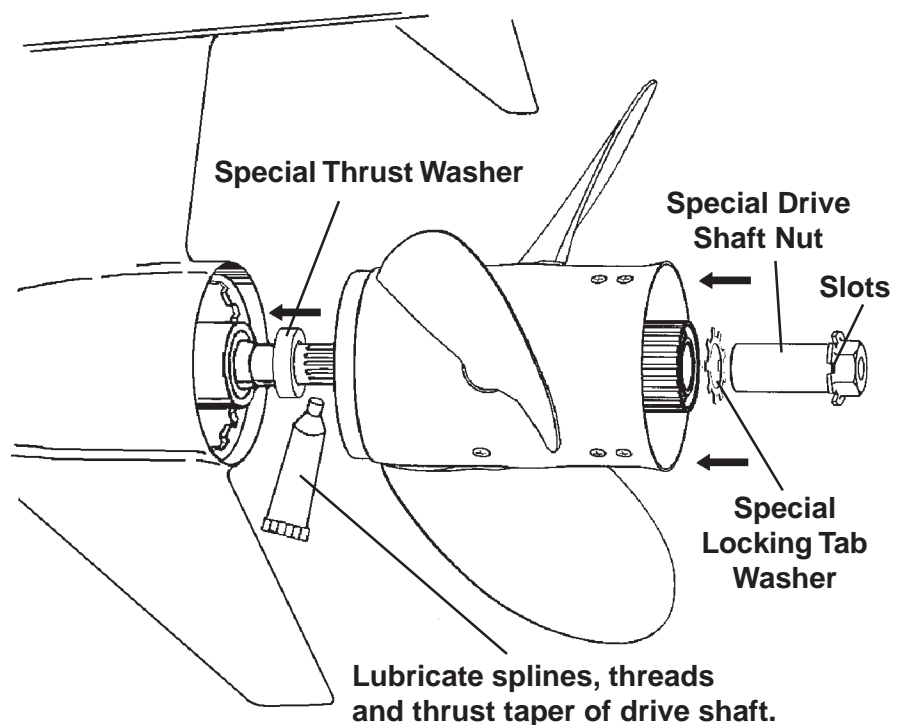

Figure 4
**2.** Place a liberal amount of a suitable waterproof lubricant on the splines, threads and thrust taper of the propeller shaft. (see Figure 4)
**3.** Place new thrust washer on drive shaft shaft (match thrust washer taper with taper on drive shaft). (see Figure 4)
**4.** While aligning splines, slide transmission hub onto shaft until seated against thrust washer. (see Figure 4)